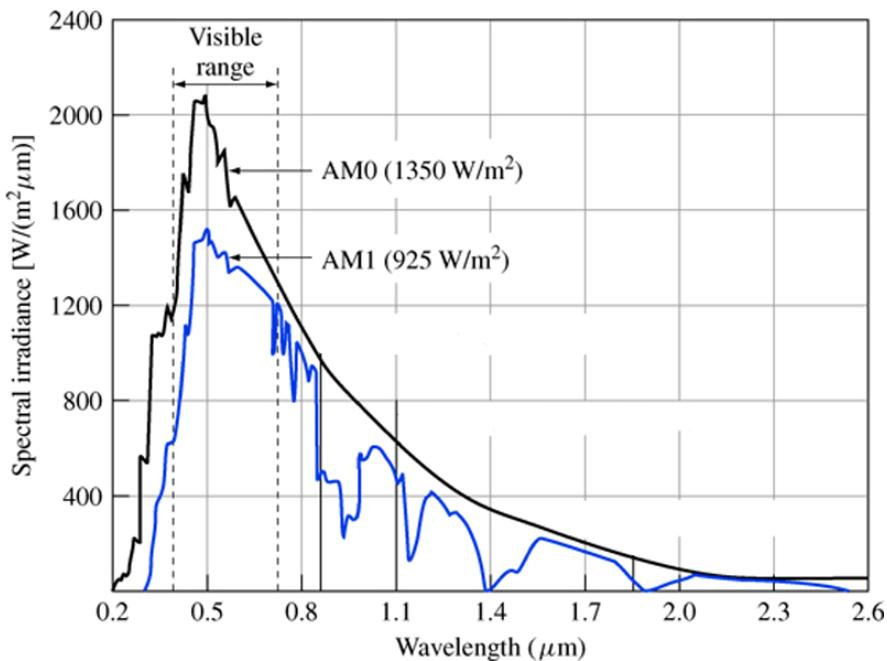

Figure 6: Solar spectrum irradiance at air mass 0 (AM0) and 1 (AM1)
- [c] Figure 6 shows a solar spectrum irradiance at air mass 0 and 1 (AM0 and AM1). Based on the bandgap value of given materials, choose and explain two (2) the most promising materials for solar energy conversion application. Given bandgap value of Ge = 0.78 eV, Si = 1.17 eV, InP = 1.35 eV, GaAs = 1.42 eV, GaP = 3.30 eV, ZnO = 3.40 eV, and ZnS = 3.6 eV.